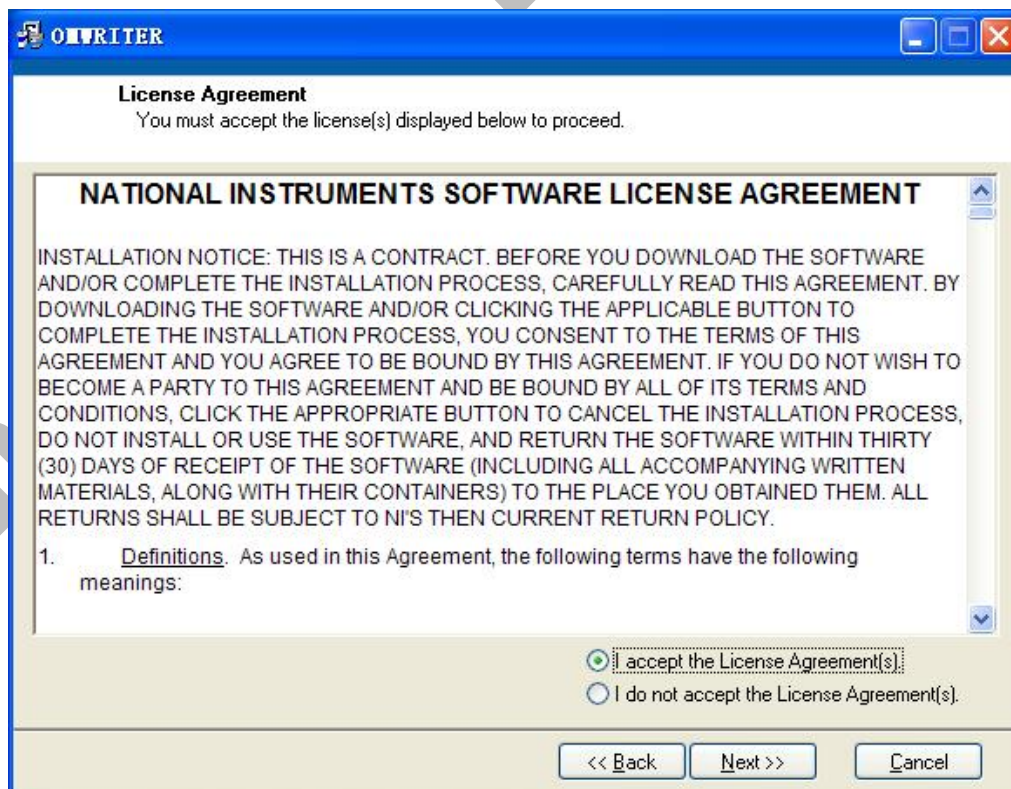

Figure 3
9. Then come into the *License Agreement* dialog box (Figure 3), you should choose *I accept the terms of the license agreement*, and then single-click *Next* button.